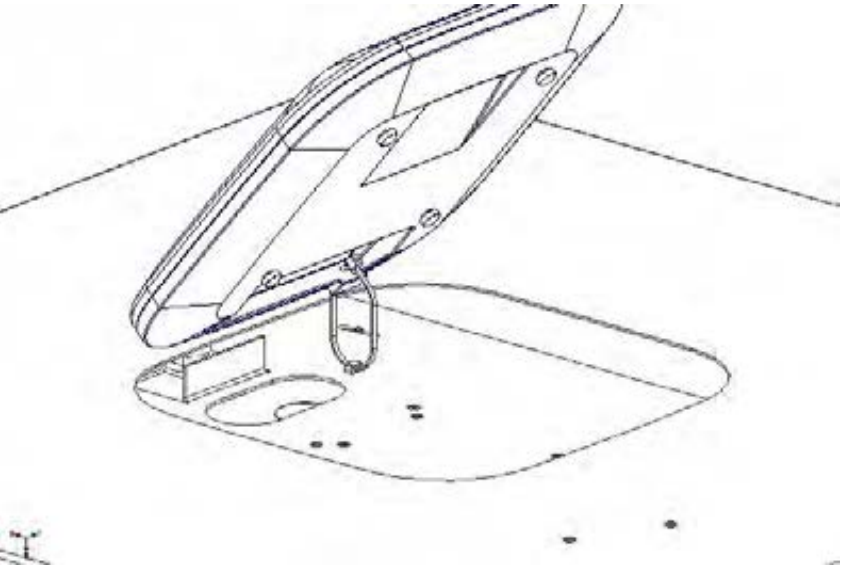

Figure 3 - Loosely attach the cable tie
Step 4 - Loop the cable tie through the tether anchor located on the mounting plate of the enclosure and lock the cable tie loosely (reference *Figure 3*).